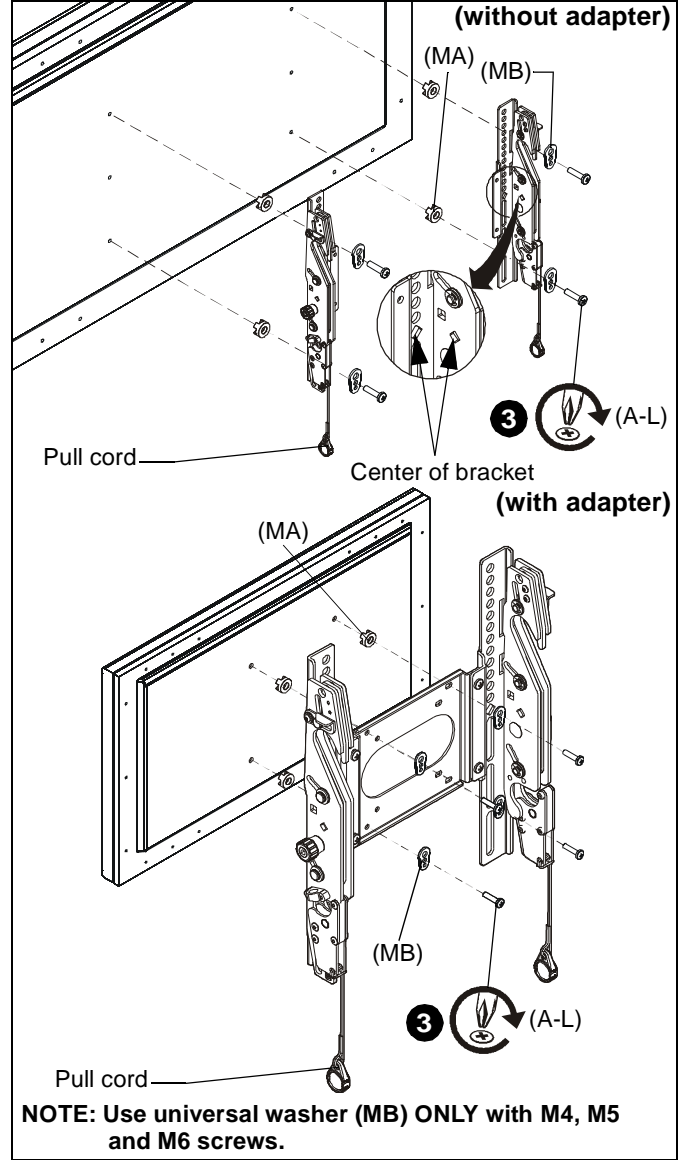

Figure 6
2. Align the center of the bracket (Y and Z) with center of screen. (See Figure 6)
3. Select correct screws, nesting spacers (if necessary) and universal washers (if required) from the hardware bag (A-L) and attach brackets to back of screen. (See Figure 6)